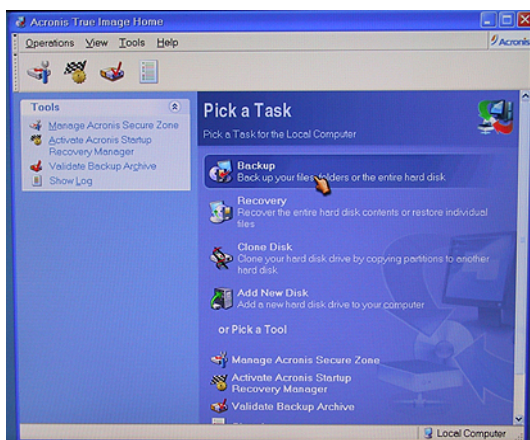

Figure A-7
- 5) Following the splash screen (Figure A-6), under the **Pick a Task** heading, select the **Backup** option (the top item) as illustrated in Figure A-7.